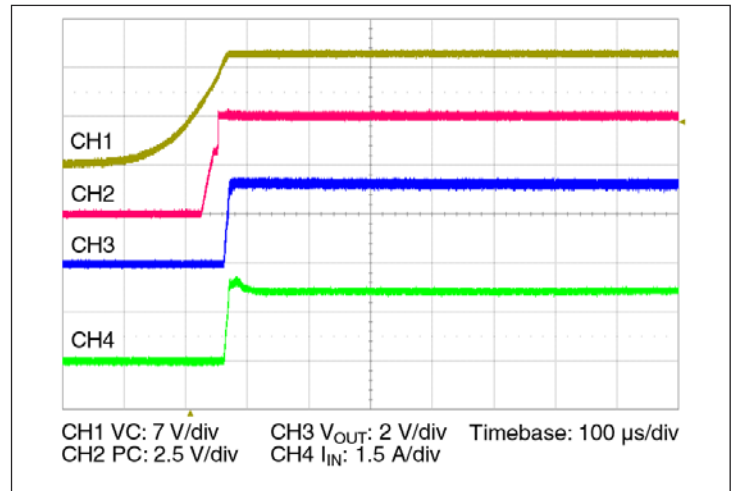

Figure 10 – Start up from application of VC; V_{IN} pre-applied
- **Stand Alone Operation (VC applied after V_{IN}):** In this case the VTM output will begin to rise upon the application of the VC voltage (See Figure 10). The output rate of rise will vary depending on the amount of output capacitance in order to limit the inrush current. In this mode of operation, the maximum output capacitance is 4,000 μ F due to limitations of the inrush limiting circuitry.